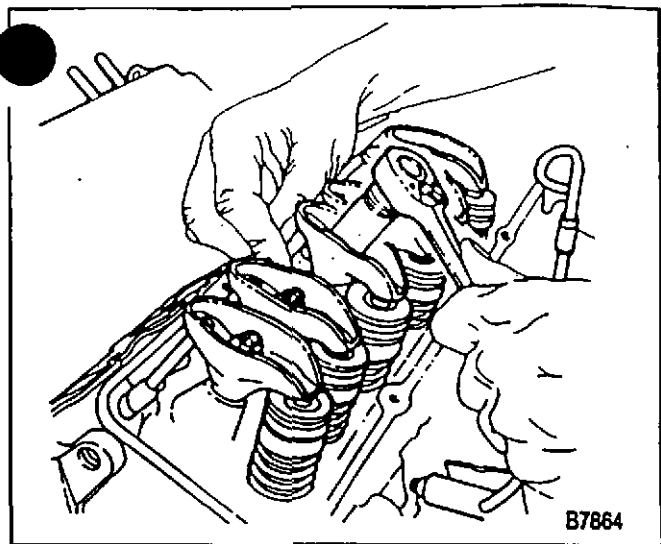

Figure 93—Adjusting the Valves (5.0L and 5.7L Engines)
4. Back out the adjusting nut until lash is felt at the pushrod then turn in the adjusting nut until all lash is removed. This can be determined by rotating the pushrod while turning the adjusting nut (figure 93). When the play has been removed, turn the adjusting nut in as follows: